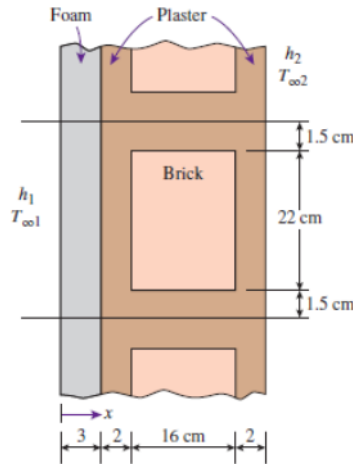

Figure 1
- b) A 3 m high and 5m wide wall consists of long 16 cm  $\times$  22 cm cross section horizontal bricks ( $k = 0.72 \text{ W/m}\cdot\text{K}$ ) separated by 3 cm thick plaster layers ( $k = 0.22 \text{ W/m}\cdot\text{K}$ ). There are also 2 cm thick plaster layers on each side of the brick and a 3 cm thick rigid foam ( $k = 0.026 \text{ W/m}\cdot\text{K}$ ) on the inner side of the wall, as shown in Figure 1. The indoor and the outdoor temperatures are  $20^\circ \text{C}$  and  $-10^\circ \text{C}$ , respectively, and the convection heat transfer coefficients on the inner and the outer sides are  $h_1 = 10 \text{ W/m}^2 \text{K}$  and  $h_2 = 25 \text{ W/m}^2 \text{K}$ , respectively. Assuming one-dimensional heat transfer and disregarding radiation, determine the rate of heat transfer through the wall. 10